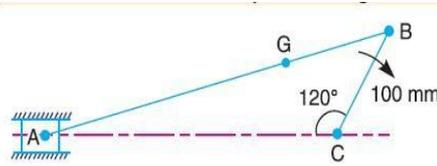

Fig. 8.5
6. An engine mechanism is shown in Fig. 8.5. The crank  $CB = 100$  mm and the connecting rod  $BA = 300$  mm with centre of gravity  $G$ , 100 mm from  $B$ . In the position shown, the crankshaft has a speed of  $75$  rad/s and an angular acceleration of  $1200$  rad/s2.